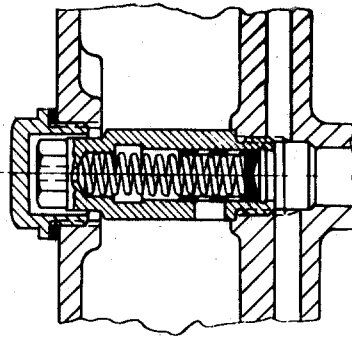

Fig. 01—4/37
1. Remove the screw plug with seal. Then unscrew the oil relief valve (6 atmospheres) at the upper longitudinal oil passage (Fig. 01—4/37).